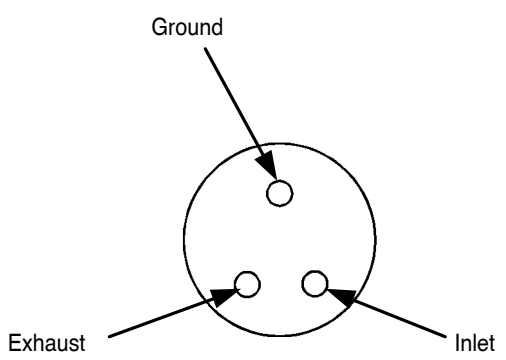

Figure 10. Valve Connector (Socket Side)
- Orient valve connector socket so that ground is located at 12 o'clock position (Figure 10).